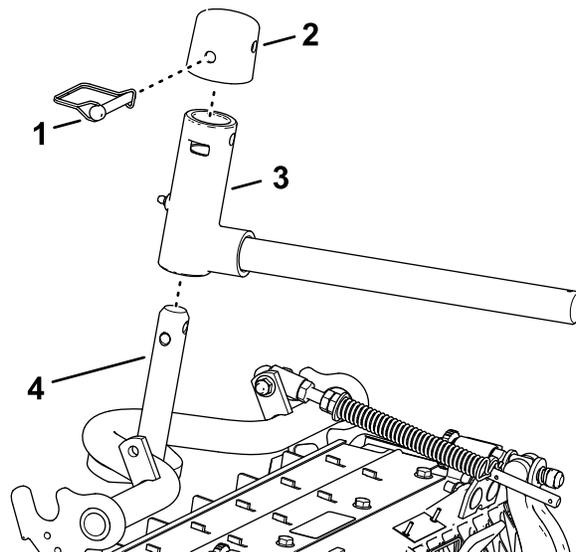

**Figure 17**
1. Remove the lynch pin and washer securing the pivot yoke to the lift arm and slide the shaft out of the lift arm (Figure 17).